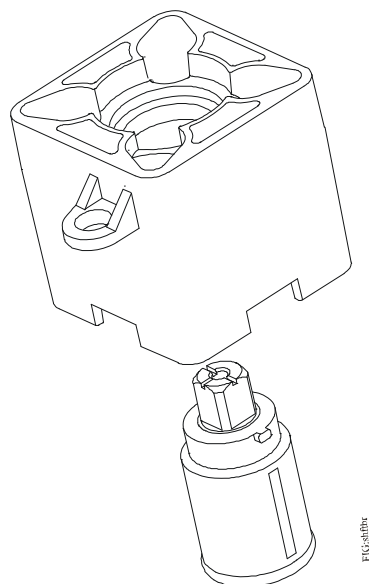

Figure 8: Installing the Drive Shaft into the Thermal Barrier
1. Install the thermal barrier drive shaft into the thermal barrier by aligning the tab on the drive shaft with the slot on the thermal barrier (Figure 8).